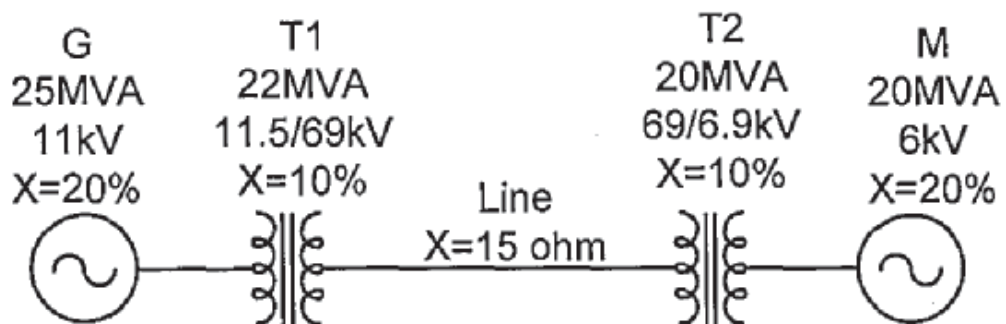

Figure 1
- Q1) a)** Take base MVA=20MVA and base kV=6kV on motor load in figure 1 and draw per-unit impedance diagram to these base values. **[10]**